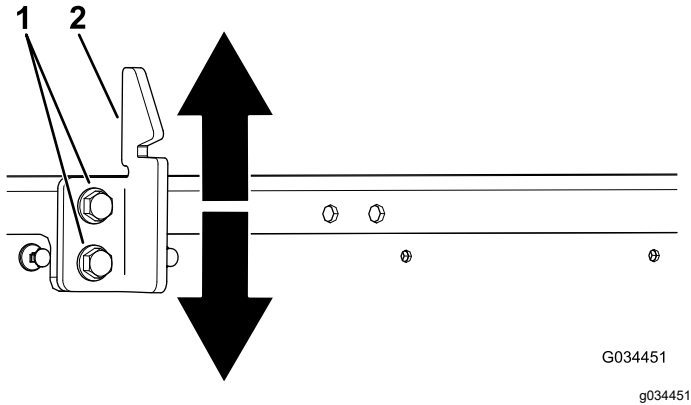

Figure 66
3. Loosen the 2 bolts on the bed-latch striker and move the striker up or down, depending on if the striker is too high or too low (Figure 66).
4. Tighten the 2 bolts on the bed-latch striker (Figure 66).